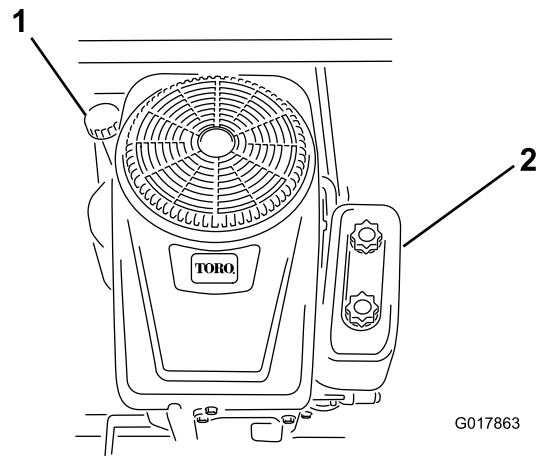

Figure 30
4. Clean around the oil dipstick (Figure 30) so that dirt cannot fall into the fill hole and damage the engine.
6. Slowly pour about 80% of the specified amount of oil into the fill hole (Figure 30).